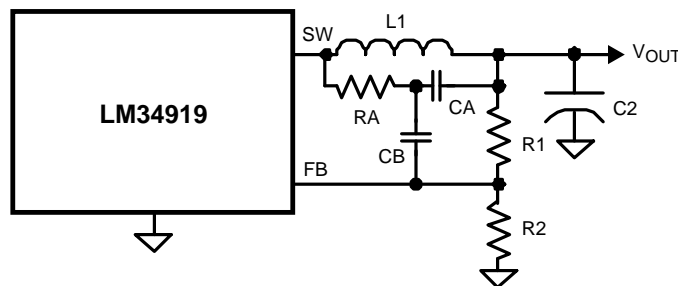

Figure 19. Minimum Output Ripple Using Ripple Injection
b) Minimum ripple configuration: The circuit of Figure 19 provides minimum ripple at V_{OUT}, determined primarily by C2's characteristics and the inductor's ripple current since R3 is removed. RA and CA are chosen to generate a sawtooth waveform at their junction, and that voltage is AC-coupled to the FB pin via CB. To determine the values for RA, CA and CB, use the following procedure: